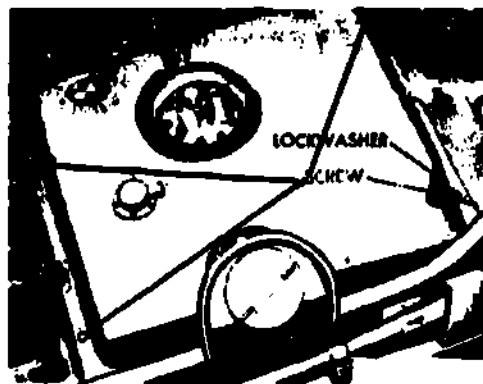

Fig 2-7. Removing screws.
- The fuel tank is secured in the vehicle by four screws and washers, two at the front and two at the rear of the tank. Remove all four of these screws (fig 2-7).